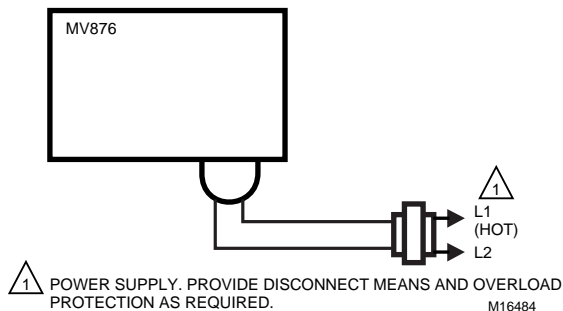

Fig. 14. Wiring diagram for F74C with MV876.
4. Connect the MV876 to a 24 Vac power supply. See fig. 14.
Mount the 24 Vac transformer and wire as shown in Fig. 14.